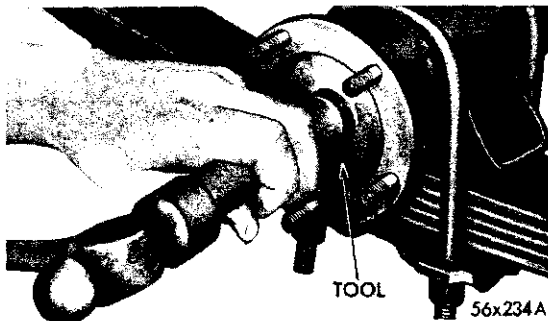
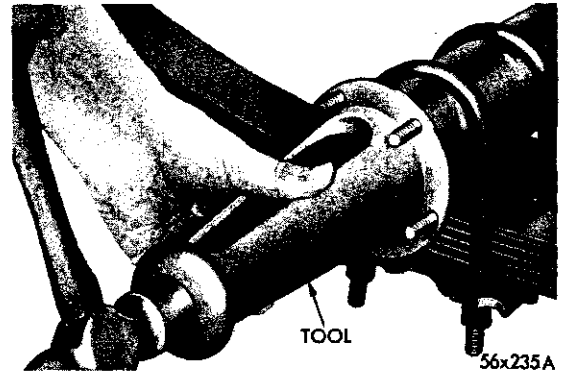

Fig. 5—Installing Axle Shaft Inner Oil Seal
Fig. 6—Installing Axle Shaft Bearing Cup
(1) When original axle shafts and/or bearings are used, start the measurement of the shaft end play with the original shim packs, after recording thickness of each. Where either or both the axle shaft and bearing are replaced, use shim packs totaling .040 inch per side. Shims are available in thickness of: .005, .0125, .015 and .030 inch.
(2) Install the inner oil seals with Tool C-839 (Fig. 5).
(3) Starting at one end of the axle housing, install a .040 inch shim pack on the flange studs.
(4) Working from the same side of the axle housing, lubricate the axle shaft bearing with a wheel bearing lubricant, and install the axle shaft.
(5) Install the bearing cup with the installing Tool C-413 (Fig. 6). Make certain the bearing cup is driven into the axle housing until the face of the installing tool bottoms against the shims, **not the housing flange**. Remove the tool and install the brake support plate, lockwashers and nuts. Tighten the nuts 30 to 35 foot-pounds torque.
(6) Working from the opposite side of the axle housing, lubricate the bearing and install the other axle shaft until it contacts the axle shaft thrust block.
(7) With a fiber mallet, lightly tap the end of the axle shaft against the thrust block. (This will force the opposite axle shaft bearing into its cup to the fullest extent.)
(8) Install the bearing cup with Tool C-413. The bearing cup must be tapped into position until the axle shaft end play just disappears. The bearing cup will protrude slightly beyond the face of the axle housing flange.
(9) While the tool is held firmly against the bearing